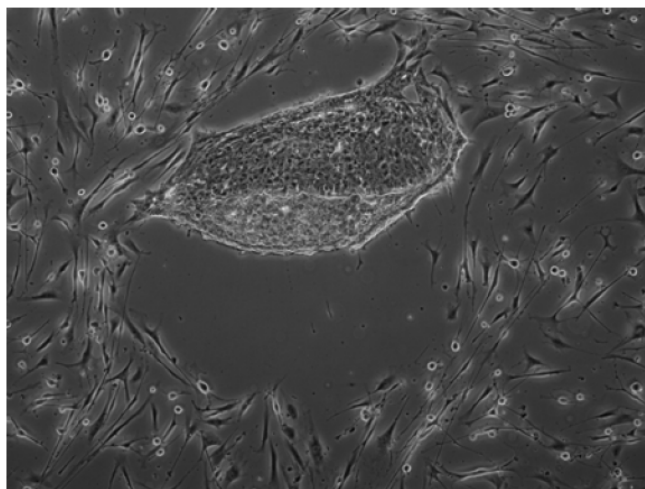

Figure 4 PSC colony pulling away from iMEF layer after treatment with enzyme
7. Stop the incubation when the edges of the colonies are starting to pull away from the plate (see Figure 4).